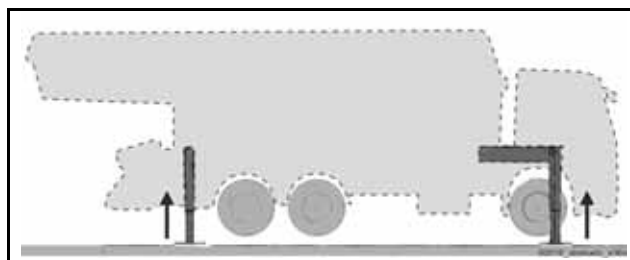

Fig. 515 Tyres are not touching the ground
- Lift the machine by extending the vertical outriggers until all wheels are off the ground (**Fig. 515**).